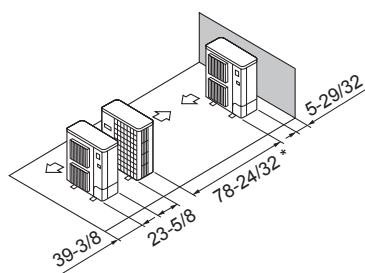

Fig. 2-16
⑤ Single parallel unit arrangement (Fig. 2-16)